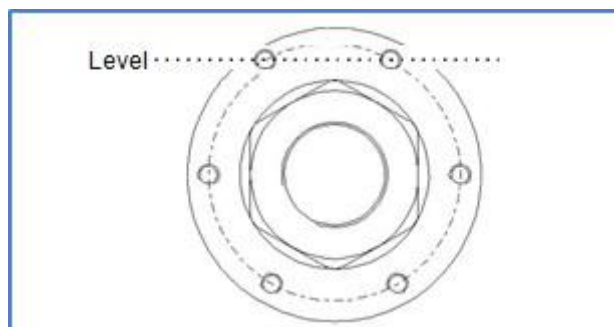

Figure 7-5: Ensure that Two Screw Holes are Horizontal
1. Screw the adaptor onto the valve and tighten it using a pipe wrench. Ensure two of the screw holes of the adaptor (used to fasten the Hydran 201Ti's heating plate) are level (horizontal); see Figure 7-5 below.